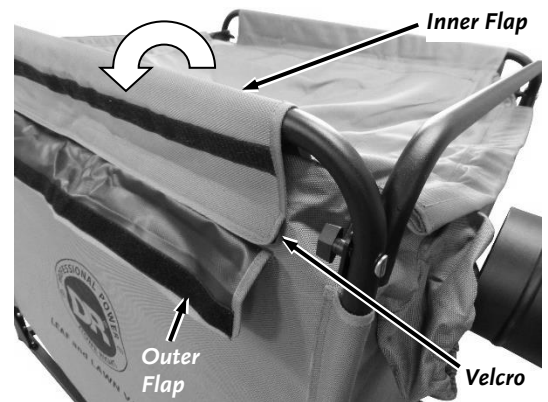

Figure 41
20. Fold the Inner Flap over the side Tube Frame and secure the Velcro next to the Outer Flap (**Figure 41**). Repeat for the other side.